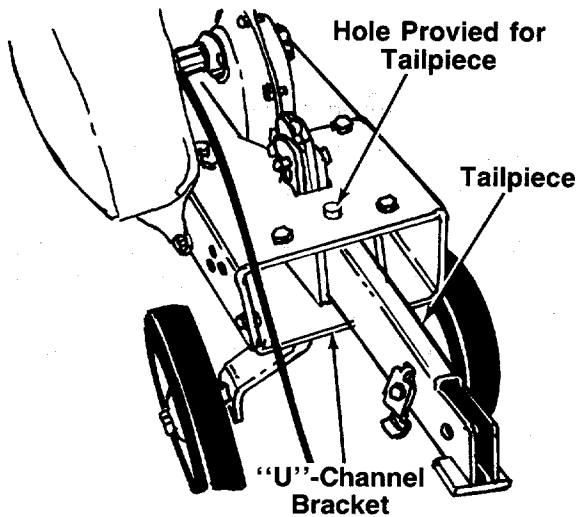

FIGURE 4.
2. Pivot the "U"-channel bracket down. Place the tailpiece in place in holes provided. See figure 4.